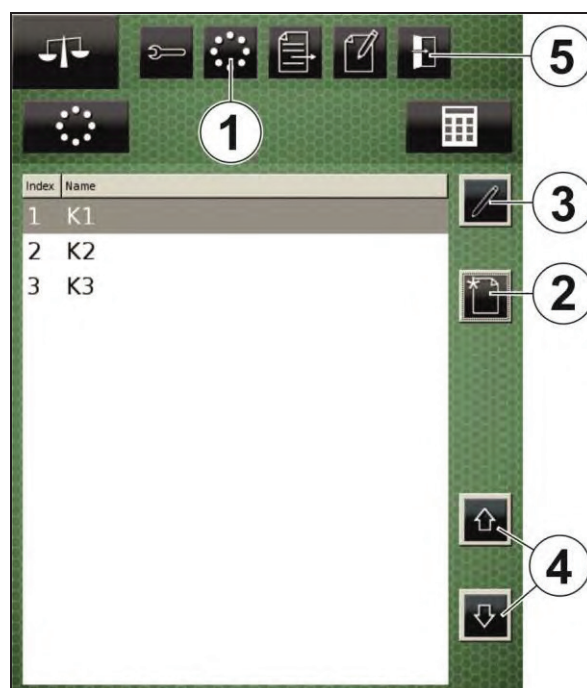

Fig. 198
6. Press the "Exit menu" key (Fig. 198/5) to call up the basic configuration of the terminal.